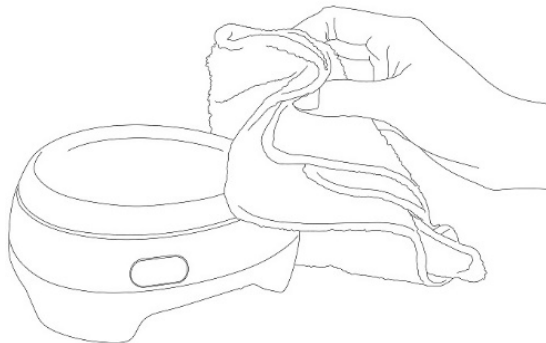

Figure 2: Cleaning the Urocap™ IV
- The **Urocap™ IV** should be cleaned using a damp cloth with alcohol, soap, or disinfectant detergent (Figure 2).